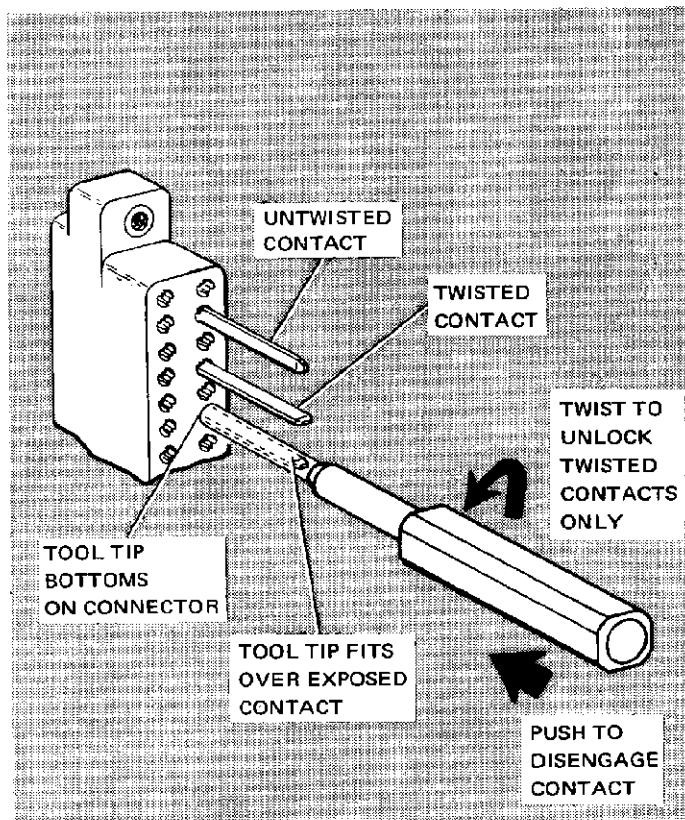

Figure 2
There are two positions for contacts: twisted, and untwisted. Refer to Figure 2. The twisted contacts must be untwisted before they are removed. Do not attempt to twist an untwisted contact for removal.
- Slip tip of tool over exposed contact. See Figure 2.